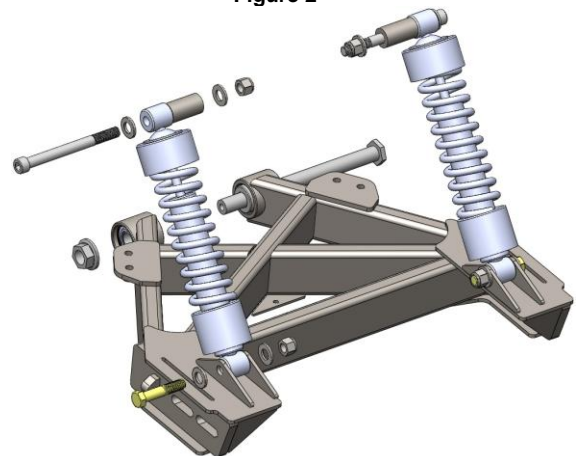

Figure 3
- Bolt OE shocks to OE upper shock mount and swing arm as shown using the supplied hardware from Box 2. Figure 3